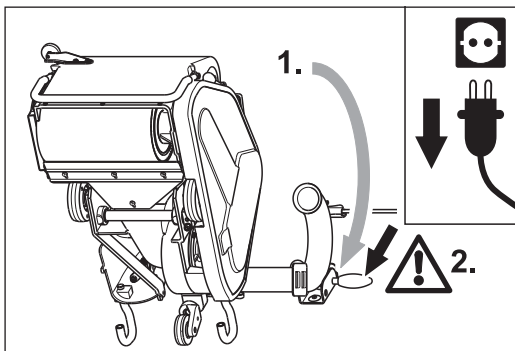

Fig. 43 Tilt the machine backwards (1.). **Ensure that the machine is standing securely (2.)!**
- 2 Tilt the machine backwards over the safety guards so that you can see the wheel bearings (Fig. 43, 1.). **Ensure that the machine is standing securely (Fig. 43, 2.)!**
- 3 Tilt the machine backwards over the safety guards (Fig. 43, 1.). **Ensure that the machine is standing securely (Fig. 43, 2.)!**